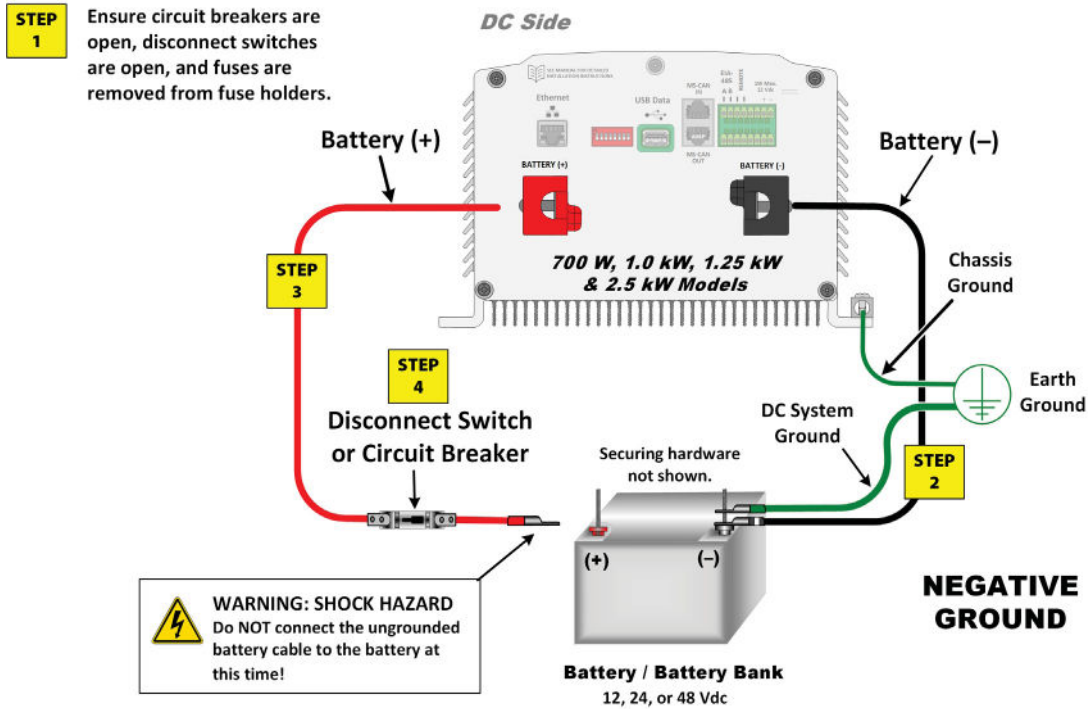

Figure 23: DC Connections on 700 W to 2,500 W Models with Negative Grounding
- **For 700 W, 1,000 W, 1,250 W & 2,500 W Models:** See Figure 23 on page 28